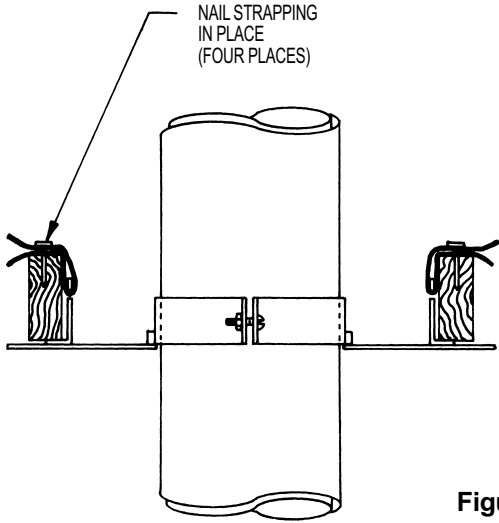
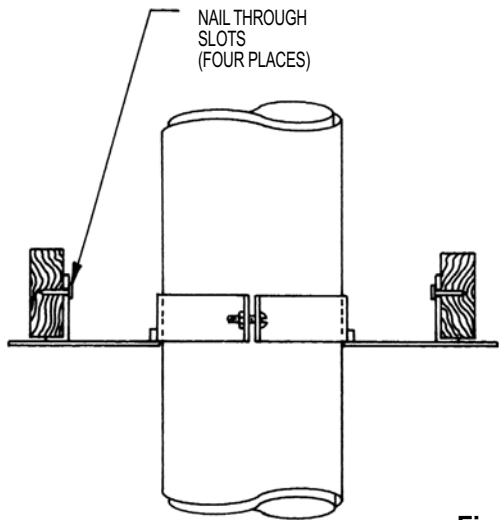
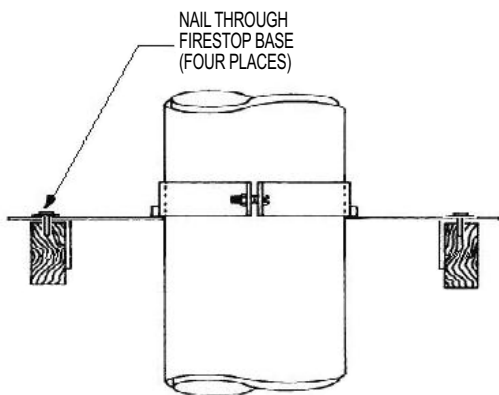

Figure 7
Figure 8
Figure 9
- Secure Firestop Support (FSP) as shown in **Figure 7**. Install strapping (minimum 3/4", 28-gauge) through all four slots in collar, and nail as shown or nail at all four slots as shown in **Figure 8** and **Figure 9**.
Adjustable Length Sections may also be used to compensate for linear thermal expansion between two fixed points in the vent system. Examples of this are shown in **Figures 9 and 14**. In these examples the fastening devices are not used. This allows for expansion between two fixed supports or between a fixed support and the appliance. Note that the fastening means should be left loose only if the Vent and the Adjustable Length Sections are installed vertically. If the Adjustable Length Sections are used in a position other than vertical, such as between offsets, the fastening means should be used.